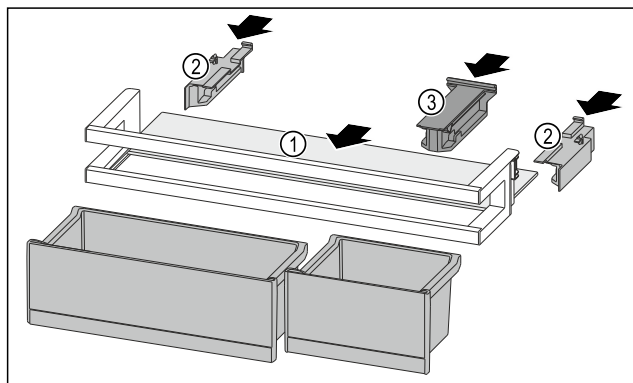

Fig. 216
- ▶ Push the shelf Fig. 216 (1) into the side recesses.
- ▶ Insert the side parts Fig. 216 (2).
- ▶ Insert the holding part Fig. 216 (3).